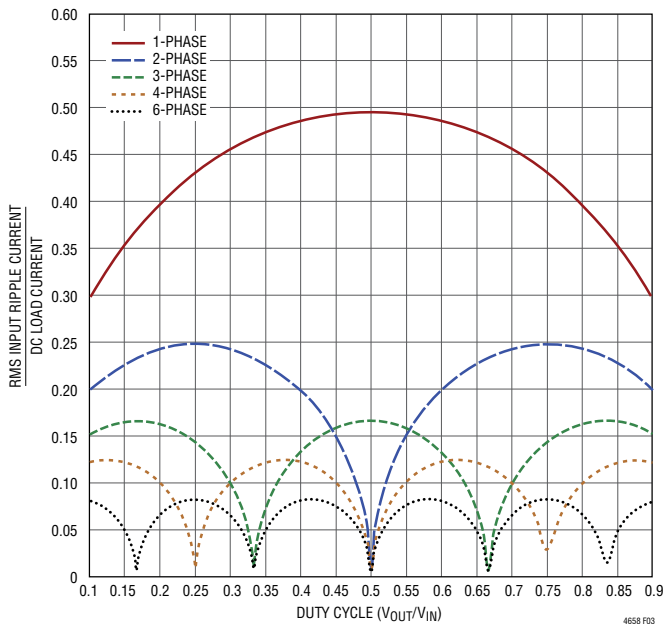

**Figure 2. Phase Programming**
2. The phasing of a slave phase relative to the master phase is programmed with a resistor divider on the FREQ pin (see Figure 2). Use of 1% resistors is recommended. See Table 4 for more information.